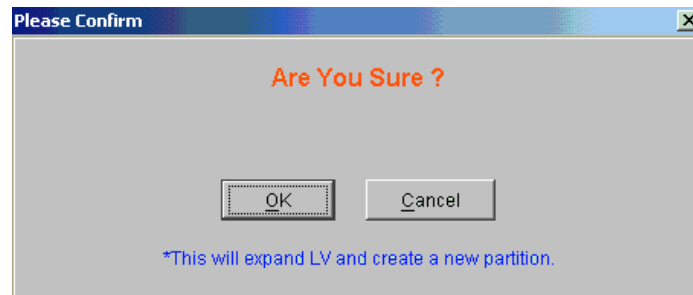

Figure 8-50: Confirm LV Expansion
- Step 2.** A confirmation window shown in *Figure 8-50* will appear. If you are certain that you want to create the LV with the settings you have selected, click the “**OK**” button.